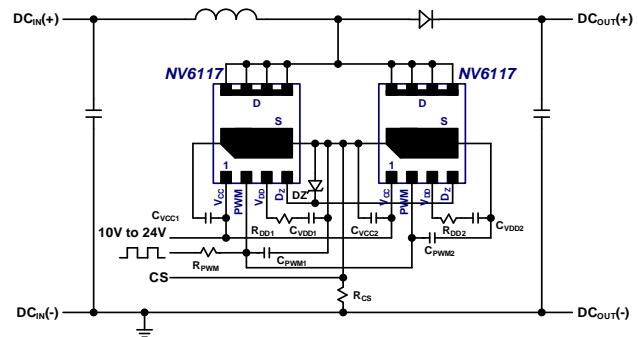

Fig. 25. Boost schematic using two parallel ICs
For some applications it is desirable to parallel ICs in order to reduce conduction losses and temperatures. Two NV6117 ICs can be connected in parallel in a PFC boost application working in boundary-conduction mode (BCM) only. The parallel configuration for two NV6117 ICs is shown in Fig. 25. The paired pins that are connected together include the drain pins (D), the source pins (S), the V_{CC} pins, the PWM pins, and the D_z . A single D_z diode can be shared by both ICs. The V_{DD} pins are not connected together and require separate V_{DD} supply capacitors (C_{VDD1} , C_{VDD2}) and separate turn-on current set resistors (R_{DD1} , R_{DD2}). Each IC should have its own local V_{CC} supply filter capacitor (C_{VCC1} , C_{VCC2}). The PWM pins can have a single filter resistor (R_{PWM}) but separate filter capacitors (C_{PWM1} , C_{PWM2}) should be placed at the PWM pin of each IC. When designing the PCB layout for the two paralleled ICs, the drain and source connections should be made as symmetrical as possible to avoid any parasitic inductance or capacitance mismatch. A proper PCB layout example for paralleling is shown in Section 10.